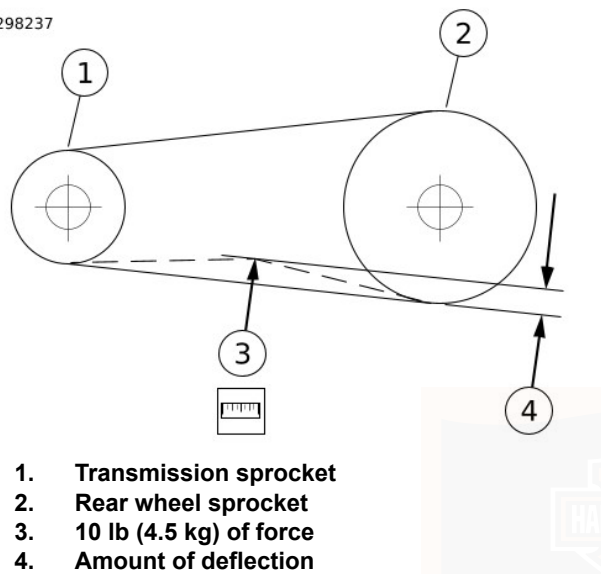

Figure 52. Checking Belt Deflection
- a. Slide O-ring (4) to zero mark (3).
- b. Fit belt cradle (2) against bottom of drive belt halfway between drive pulleys.
- c. Press upward on knob (6) until O-ring slides down to 4.54 kg (10 lb) mark (5) and hold steady.
4. See Figure 52. Measure amount of deflection (4) while holding gauge steady.